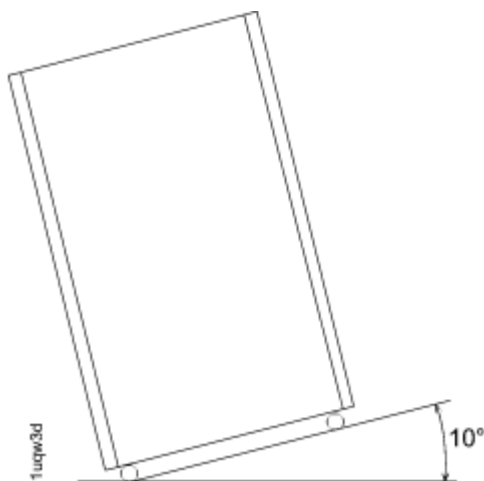

Figure 13. Maximum tilt for a packed frame is 10°
3. To compensate for the weight of the storage system shipment, ensure that the loading ramp at your site does not exceed an angle of 10°. (See Figure 13 on page 120.)